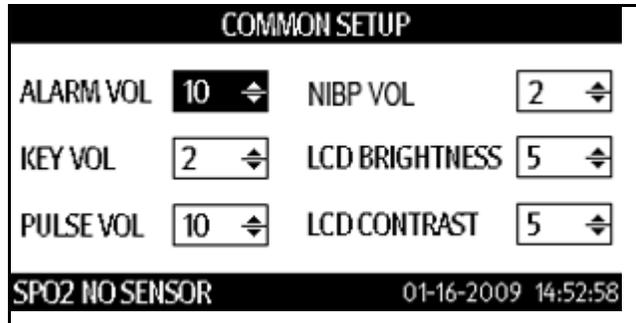

FIGURE 3-14 Example COMMON SETUP Dialog (Black-and- White LCD display)
2. Press  (16) or  (19) to highlight COMMON SETUP.
3. Once the COMMON SETUP has been highlighted, press  (18) to display the COMMON SETUP dialog as shown in FIGURE 3-14.